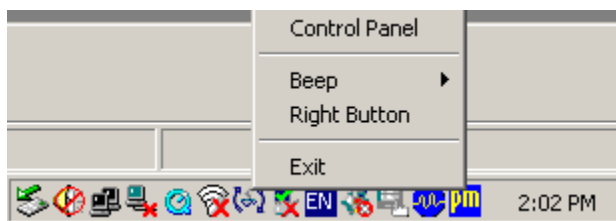

Figure 7-8: PenMount Monitor Popup Menu
Step 4: Click the icon. A pop up menu appears. See **Figure 7-8**.
Step 5: Click Control Panel in the pop up menu shown in **Figure 7-8**.